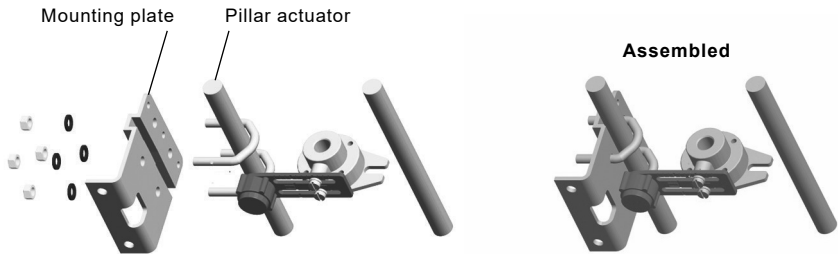
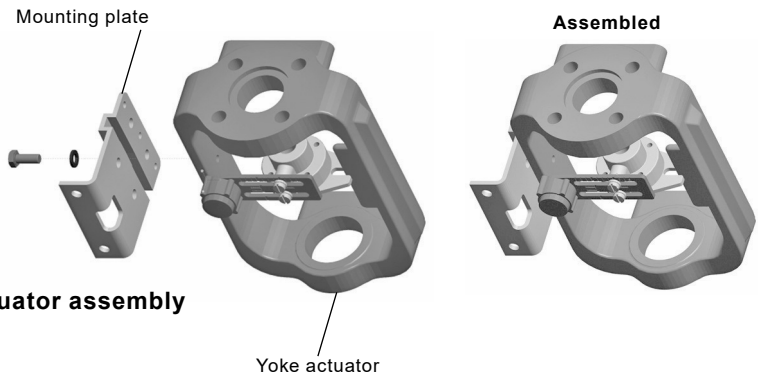

Fig. 9 Pillar actuator assembly
Fig. 10 Yoke actuator assembly
- 5.2.4** Loosely attach the positioner mounting plate to the actuator as shown in the following pictures: for the pillar actuator (Figure 9), and for the yoke actuator (Figure 10).
5.2.7 Adjust the vertical position of the SP400 positioner and mounting plate assembly, by sliding it up or down on the pillar style actuators, ensuring that the positioner is roughly centred on the actuator/valve stroke (Figure 10).